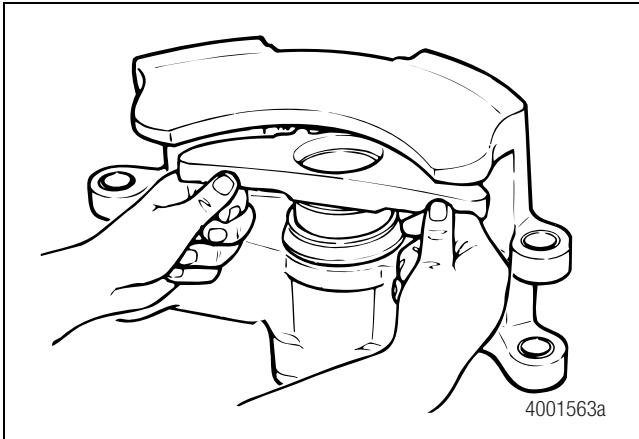

Figure 5.9
10. Remove the piston from the caliper. While you remove the piston, remove the lip of the boot from the piston groove. The boot will remain in the caliper bore. Figure 5.9.